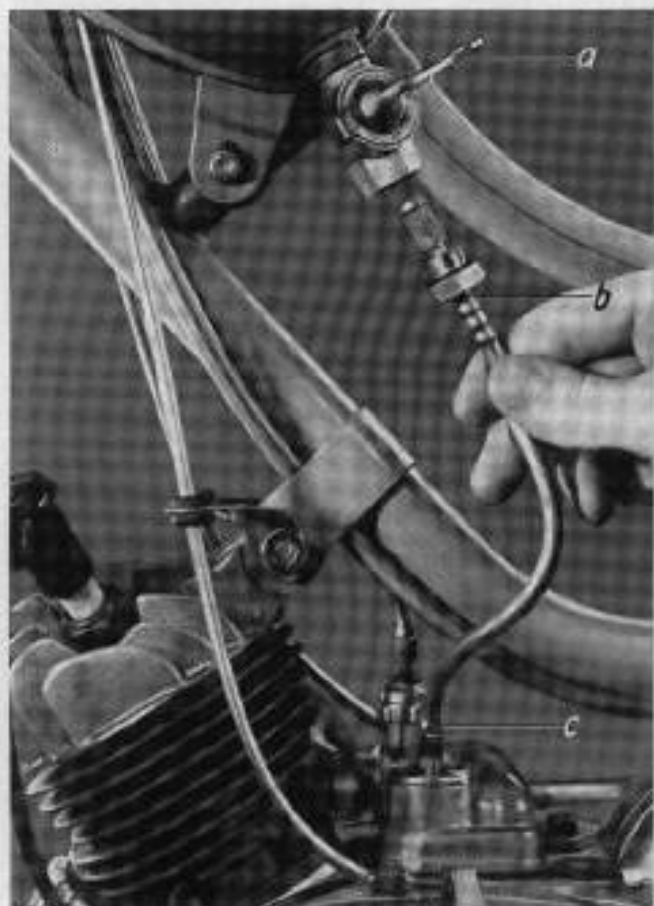

Fig. 5
2.1 Close the fuel tap (a), unscrew the fuel pipe (b) at the tap which should be cleaned at the same time, or remove the tube at the carburettor (c). (Fig. 5)